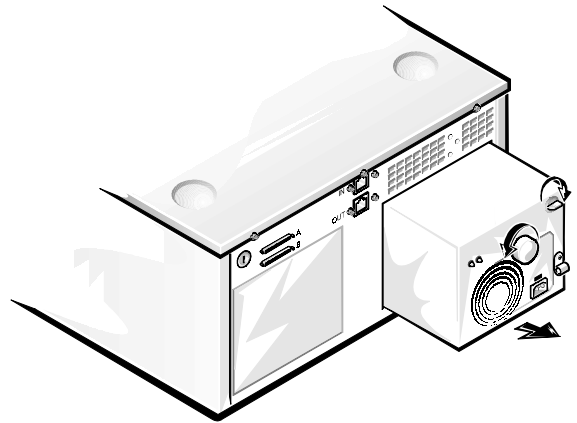

Figure 3-5. Removing the Power Supply
4. **Slide the power supply out of the chassis (see Figure 3-5).**